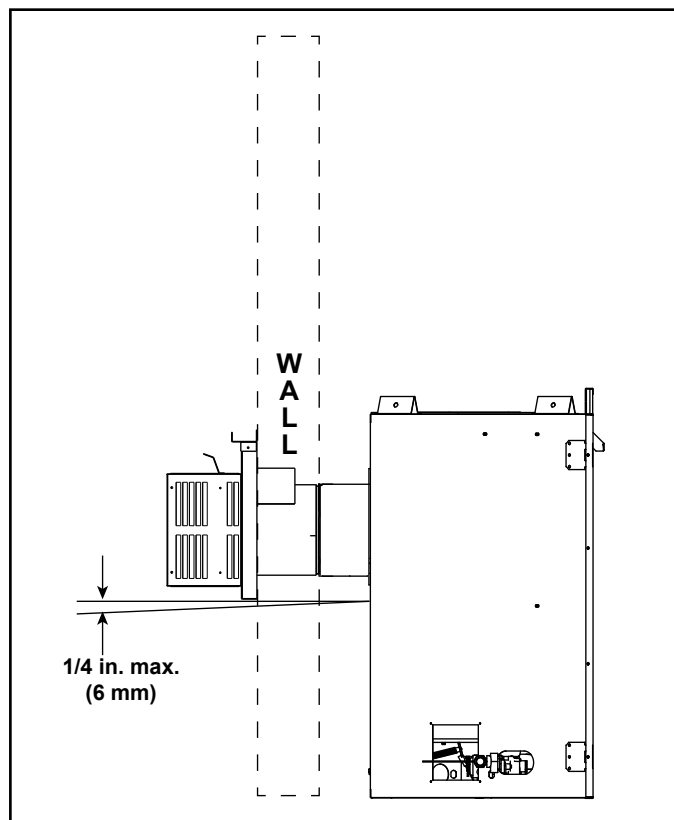
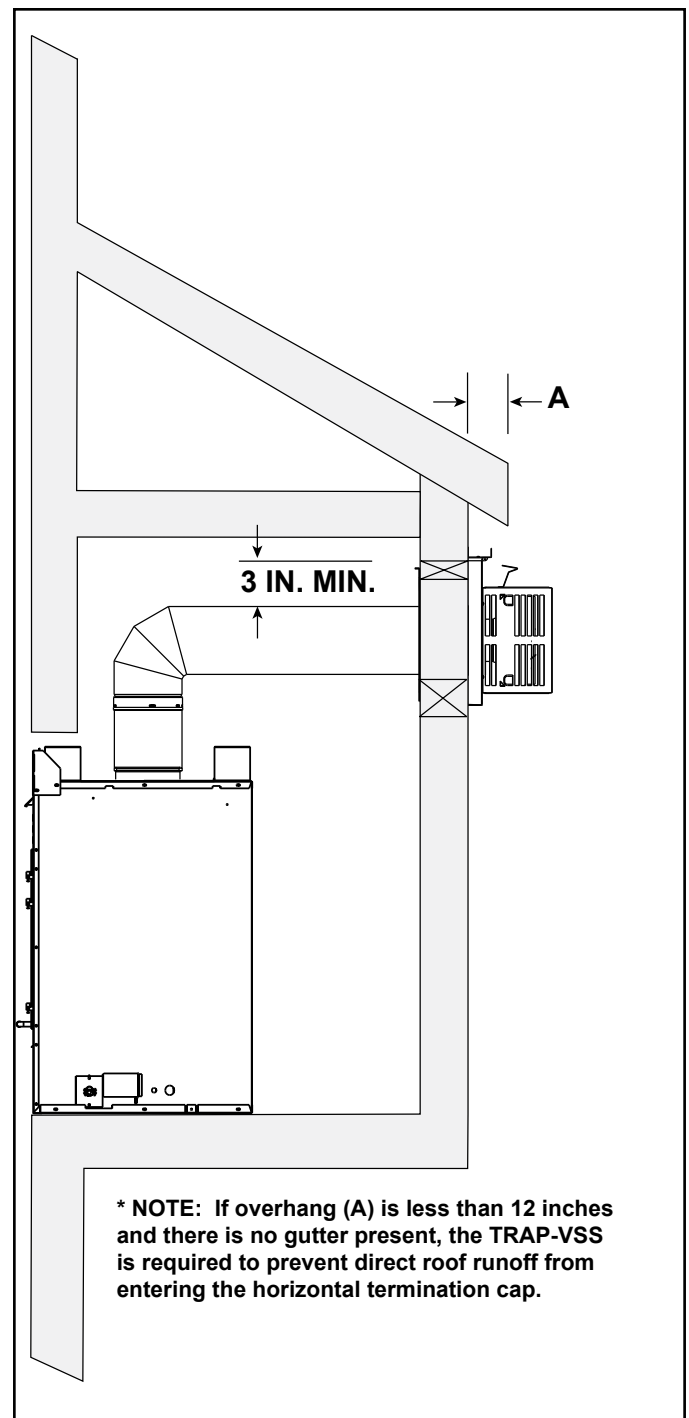

Figure 4.9 Water Infiltration Prevention Tip
Figure 4.10 Exterior Chase - Water infiltration Prevention
- When the horizontal termination cap is exposed to high precipitation, the cap should have a 1/4 inch downward slant to allow any moisture in cap to be released. See Figure 4.9. See Figure 4.10 for additional water infiltration prevention information.